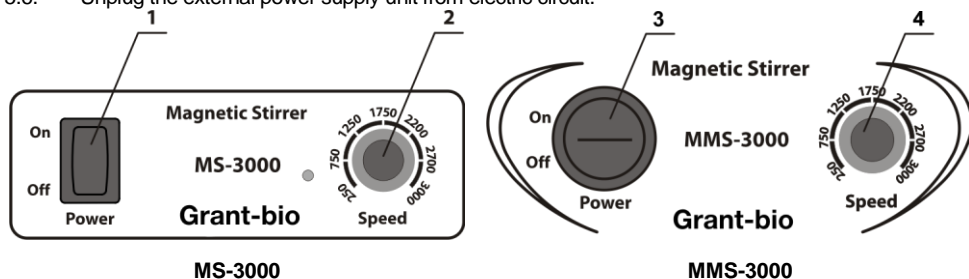

Figure 3. Control panel
- 5.3. Turn the **Power** switch (fig. 3/1 or 3/3) into the position **I** (On).
- 5.4. Set the required speed using the **Speed** knob (fig. 3/2 or 3/4). Increase the speed smoothly.